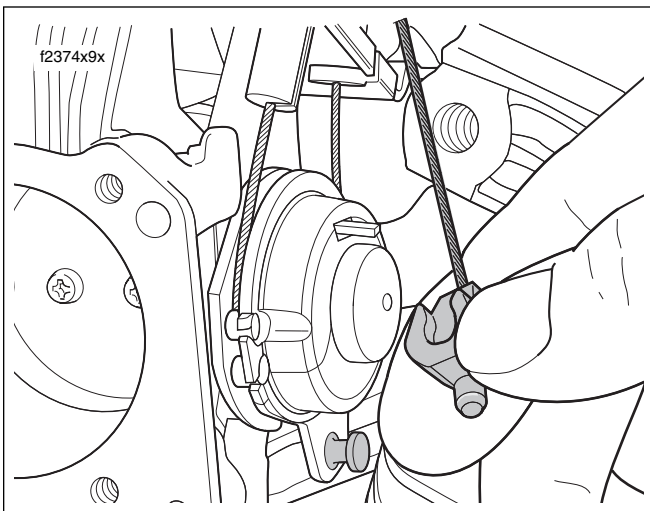

Figure 8-134. Remove End Fitting From Wheel Pin
3. Push the plastic end fitting on the cruise cable to the outboard side to release from wheel pin. See Figure 8-134.
2. Slide groove in cruise cable end fitting over cap of wheel pin. Push on end fitting until it snaps in place. See Figure 8-134.
2. Push the plastic end fitting on the cruise cable to the outboard side to release from wheel pin. See Figure 8-134.
12. Slide groove in cruise cable end fitting over cap of wheel pin. Push on end fitting until it snaps in place. See Figure 8-134.